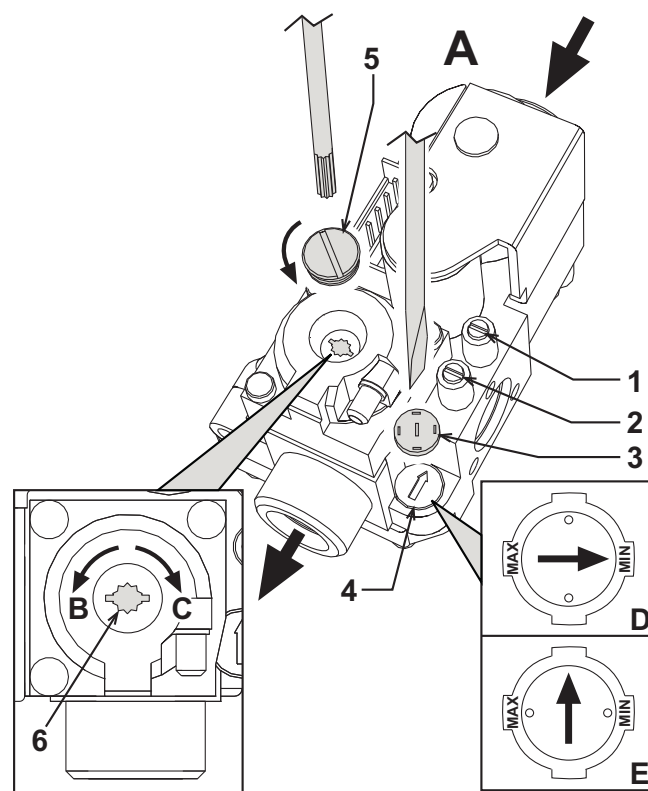

fig. 17 - Pressure adjustment
On ERA F D boilers, the firebox heating power and therefore the heat output delivered to the heating water can only be adjusted by means of the main burner through the gas valve, (see fig. 17). The diagrams given in the section cap. 5.2 indicate the variation in heat output delivered to the water according to the change in burner operating pressure. Being able to adjust boiler output to the actual heating requirements means above all reducing heat losses, and therefore obtaining fuel saving. Also, with the variation in output, also regulated by the provisions, the boilers keep their efficiency levels and combustion characteristics practically unchanged.
- Using a small screwdriver, remove the secondary operator protection cap 5 of the gas valve of fig. 17.
- Connect a manometer to the pressure point 2 (fig. 17) located below the gas valve, and turn the boiler thermostat knob to the maximum value.
- Adjust the pressure to the required value by means of the screw 6 (fig. 17), referring to the diagrams given in section cap. 5.2.
- Remove the small protection cap 3 (fig. 17) from the gas valve. Using a small screwdriver, adjust the ignition "STEP" for the required gas (**G20-G25** position **D** fig. 17 or **G30-G31** position **E** fig. 17); then refit the cap.
- Vent the air from the gas pipes by means of the gas valve pressure point 1 (fig. 17).